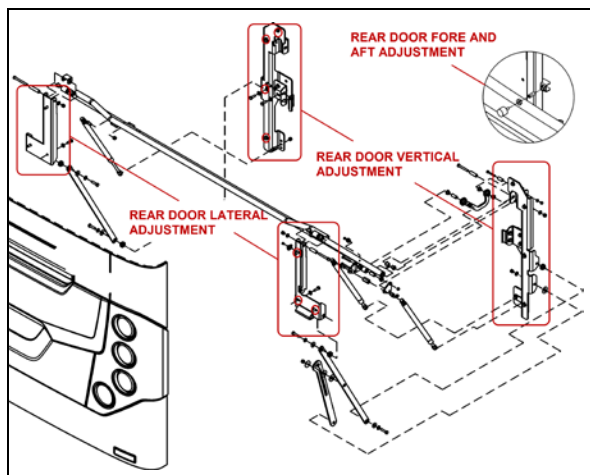

FIGURE 40: ENGINE COMPARTMENT DOOR
1. To adjust the door VERTICAL position, loosen the bolts (4 on each side) holding the door supporting arm and gas springs bracket to the *vehicle structure* (Figure 40).
2. To adjust the door LATERAL position, loosen the bolts (3 on each side) holding the door supporting arm and gas springs bracket to the *door* (Figure 40).
3. Adjust the door FORE & AFT position by screwing/unscrewing the rubber door stops on each side of the door opening (Figure 40).